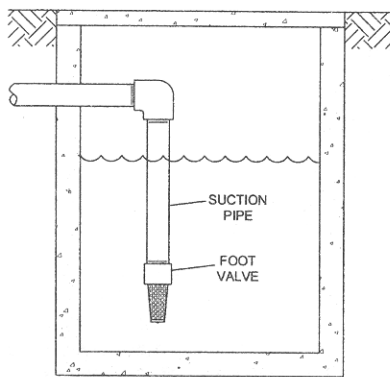

FIGURE 5A-
- B. Driven Well with well point - see figures 5A, 5B
On sand points or driven wells, install an in-line check valve near the well head or at the pump and use the well casing as the suction pipe. (see figure 5A) The closer the check valve is to the well, the easier the system will prime.